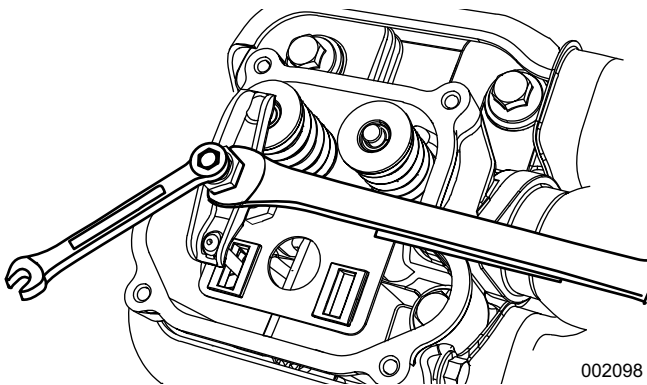

Figure 6-18. Tightening Rocker Arm Jam Nut
2. See **Figure 6-18**. When clearance is correct, hold pivot ball stud with box wrench and tighten rocker arm jam nut to the specified torque with an open-ended wrench. Verify valve clearance did not change after tightening jam nut.